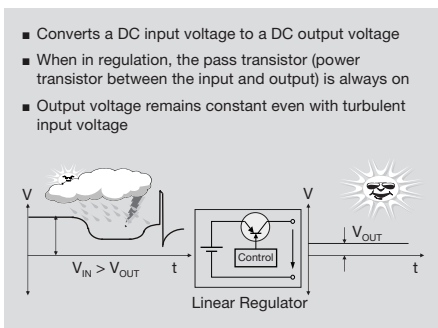

**Figure 9.4 What is a Linear Regulator?**
One of the most common types of electronic power supplies is a linear voltage regulator. A linear voltage regulator, or simply a linear regulator, is a power supply that converts a direct current (DC) input voltage into the desired but smaller DC output voltage. In spite of input voltage variations the output voltage will remain steady as long as the input voltage is greater than the output voltage. Output voltage is kept constant by means of operating a series pass transistor (connected between input and output) in the linear or active region; hence the name “linear” regulator. Figure 9.4 is a cartoon illustration of the principle.
Figure 9.4 is a very simple block diagram of a linear regulator that illustrates the basic operation. For simplicity the ground